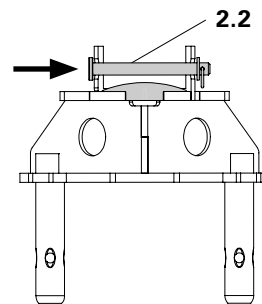

Fig. A4.01b
4. Secure Connecting Bolts (2.2) with plate and cotter pins. (Fig. A4.01b)